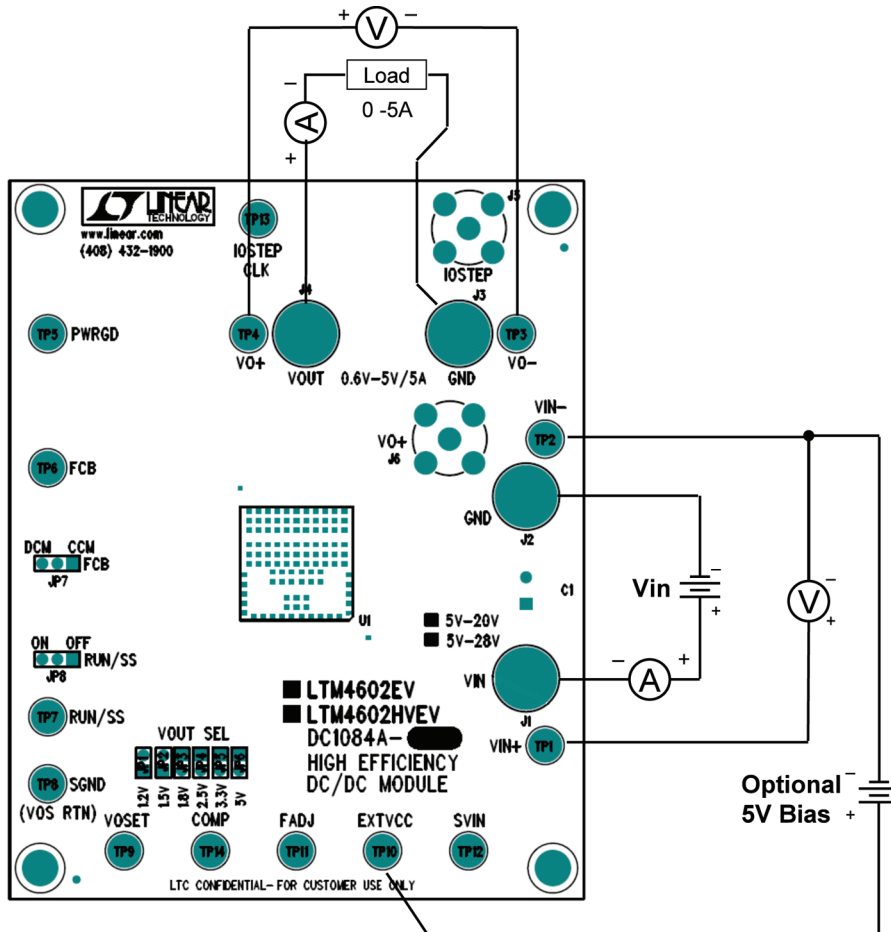

Figure 1. Test Setup of DC1084A-B (EXTVCC Bias Supply is Optional)
Demonstration circuit DC1084A-B is an easy way to evaluate the performance of the LTM4602HVEV. Please refer to Figure 1 for proper measurement equipment setup and follow the procedure below:
2. With power off, preset the load to 0A and VIN supply to be less than 28V. Connect the input power supply, load, optional 5V bias supply and meters as shown in Figure 1. The optional 5V bias supply must be off anytime the supply to VIN is turned off.